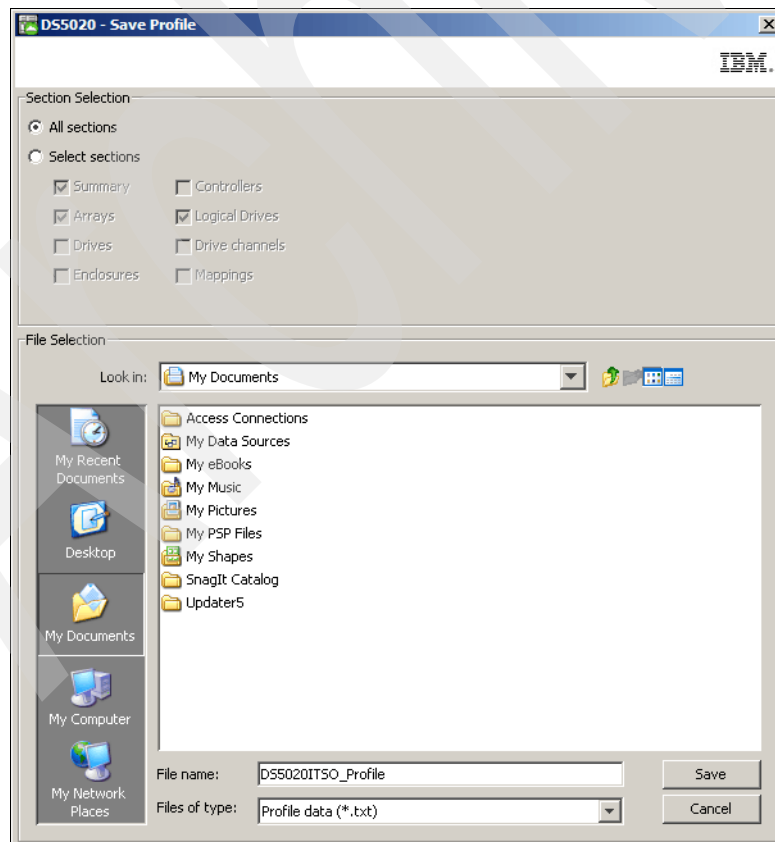

Figure 10-46 Save the profile file in text format including all the sections
- Save the file in text format, including all the section as shown in Figure 10-46.